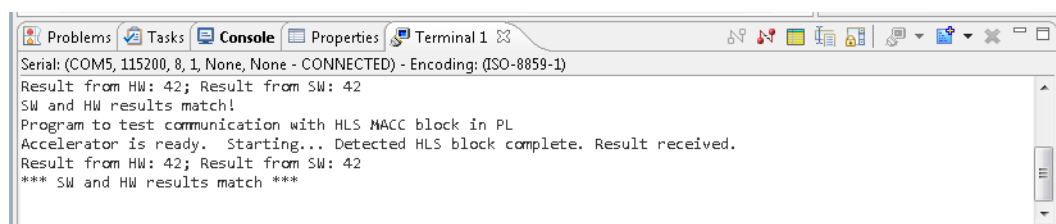

Figure 10-27: Console Output with Updated C Program
Upon success, the Terminal session looks similar to Figure 10-27.
1. From the Vivado HLS command prompt used in Lab 1, change to the `lab2` directory as shown in Figure 10-27.